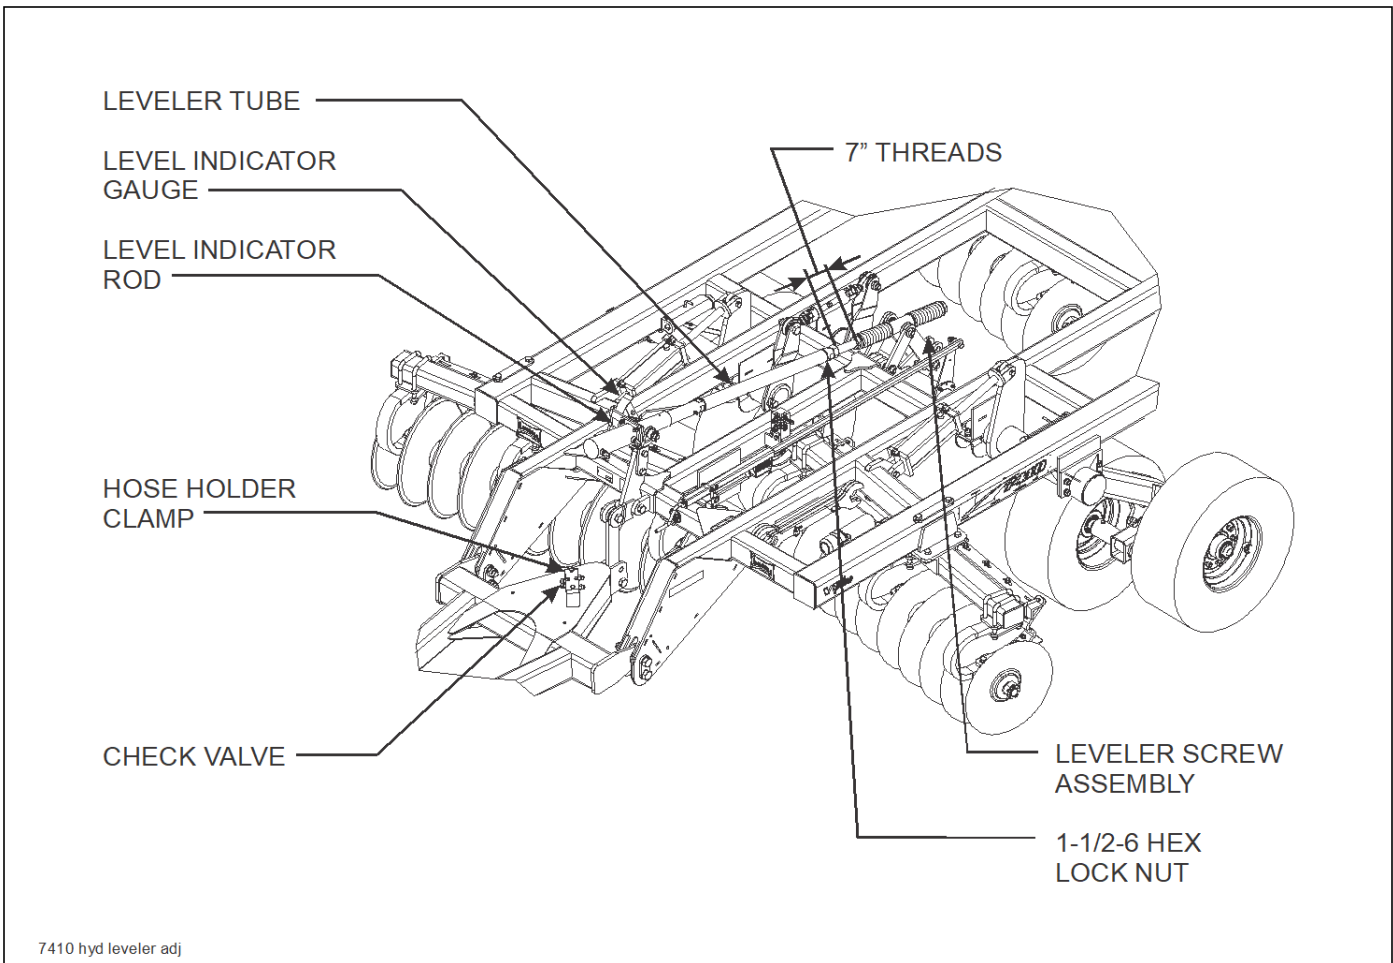

Figure 4-9: Hydraulic Leveler Adjustment
2. Remove the level indicator rod from the leveler tube (See Figure 4-9.)